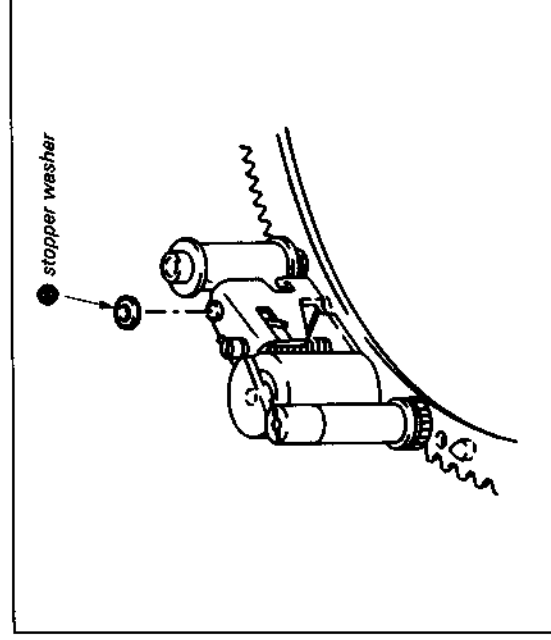

Fig. 7-14.
7-3-8. Pinch Roller Assembly (See Fig. 7-14. ~ 25.)
- 2) Remove stopper washer ●. (See Fig. 7-14.)